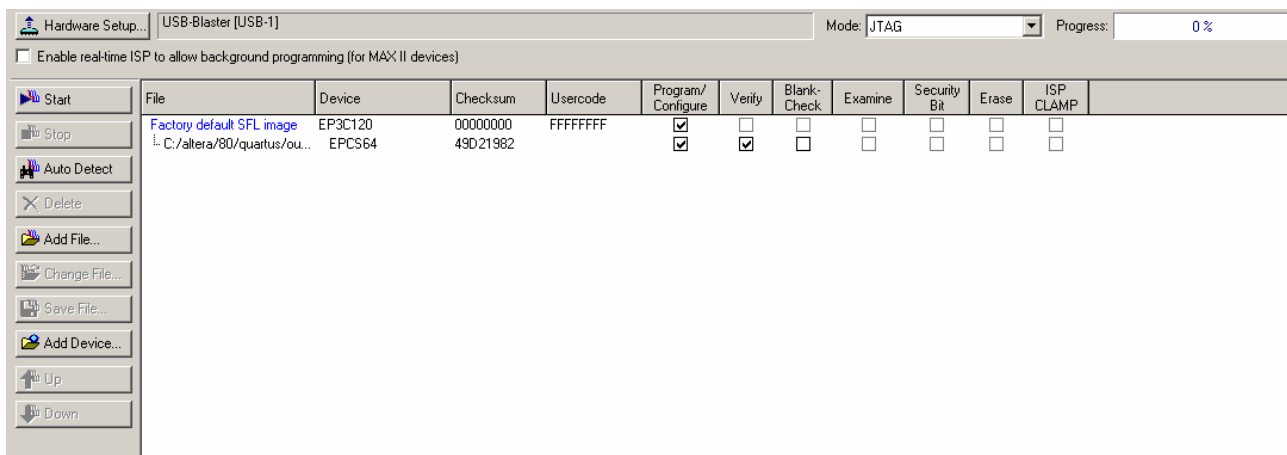

Figure 0.5. Quartus II programmer window with one JIC file
2. Program the serial configuration device by checking the corresponding **Program/Configure** box, a Factory default SFL image will be load (See Figure 0.5).